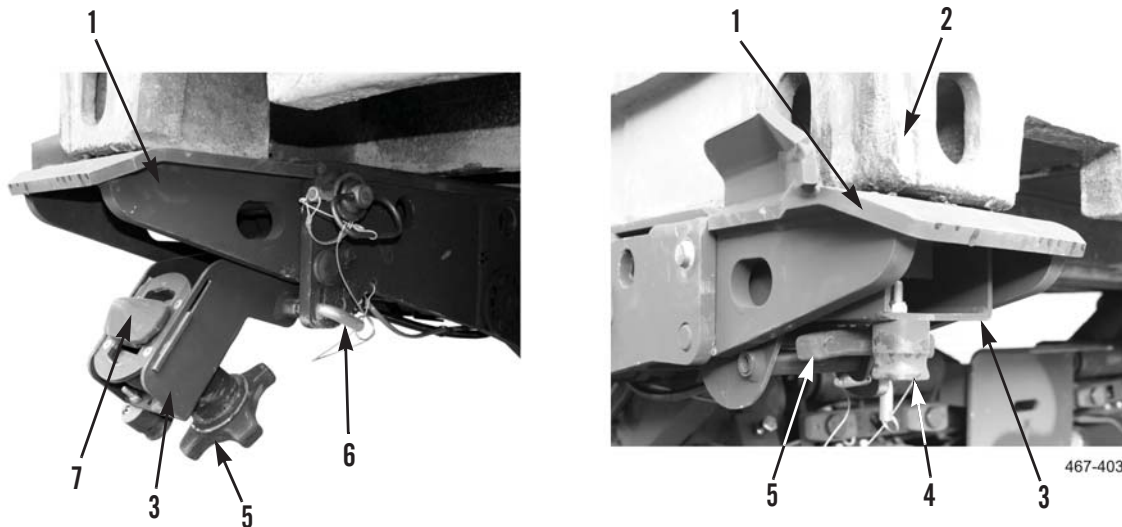

Figure 16. Secure Twistlock Assembly.
2. At rear of vehicle, remove locking pin (Figure 16, Item 6) and rotate twistlock assembly (Figure 16, Item 3) up into twistlock housing (Figure 16, Item 1). Install locking pin.
3. Pull down handwheel locking pin (Figure 16, Item 4) and rotate to position that allows movement of handwheel (Figure 16, Item 5).
4. Loosen handwheel (Figure 16, Item 5) to extend anvil (Figure 16, Item 7) into container corner casting (Figure 16, Item 2). Rotate anvil 90° to position perpendicular with opening in corner casting.
5. While maintaining anvil (Figure 16, Item 7) position, securely tighten handwheel (Figure 16, Item 5).
6. Pull down and rotate handwheel locking pin (Figure 16, Item 4) into position between handwheel fingers.